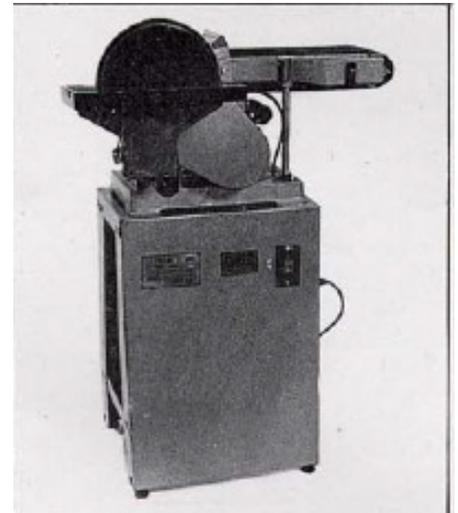

Fig 5.
Installing the stand and body Place the body on the stand, remembering to position the four holes on the cover correctly and in line to connect to the four threaded holes on the body. Remove bolts and washers (G) from the package to tighten the stand and body as per Fig 5.